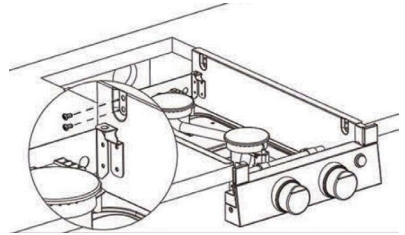

FIG. 5
5. Use four tapping screws on both left and right to secure the cooktop. (Fig. 5)